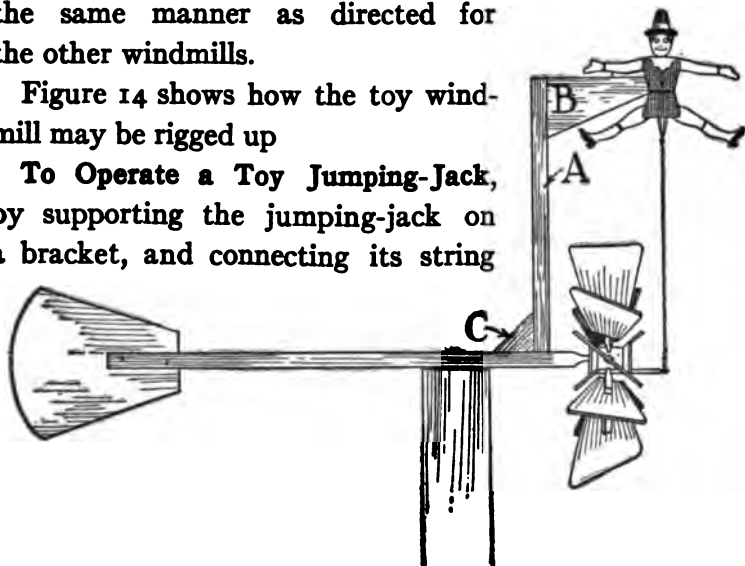

FIG. 14.—How the Windmill may be Rigged up to Operate a Toy Jumping-Jack.
Figure 14 shows how the toy windmill may be rigged up
Cut the upright of the bracket (A, Figs. 14 and 15) 14 inches long, and the crosspiece (B) 7 inches long. Nail A to B, and nail the jumping-jack at its center to the end of B (Fig. 15). Fasten the triangular block (C) to the
Then as the windmill revolves it will operate the toy in the manner indicated in Figs. 14 and 15.